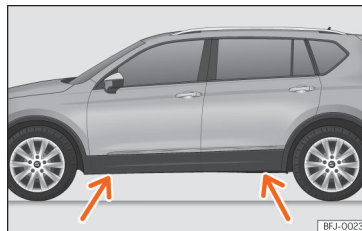

Fig. 37 Jack position points.
- Find the support point on the strut (sunken area) closest to the wheel to be changed »» Fig. 37.